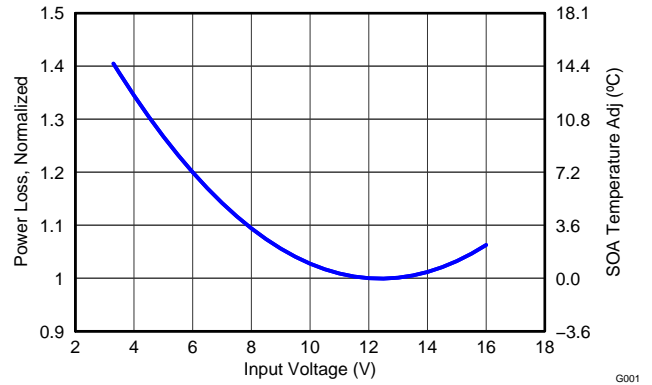

Figure 13. Normalized Power Loss vs Input Voltage
- Normalized Power Loss for input voltage \approx 1.15 (Figure 13)
- SOA adjustment for input voltage \approx 5.4 $^{\circ}$ C (Figure 13)